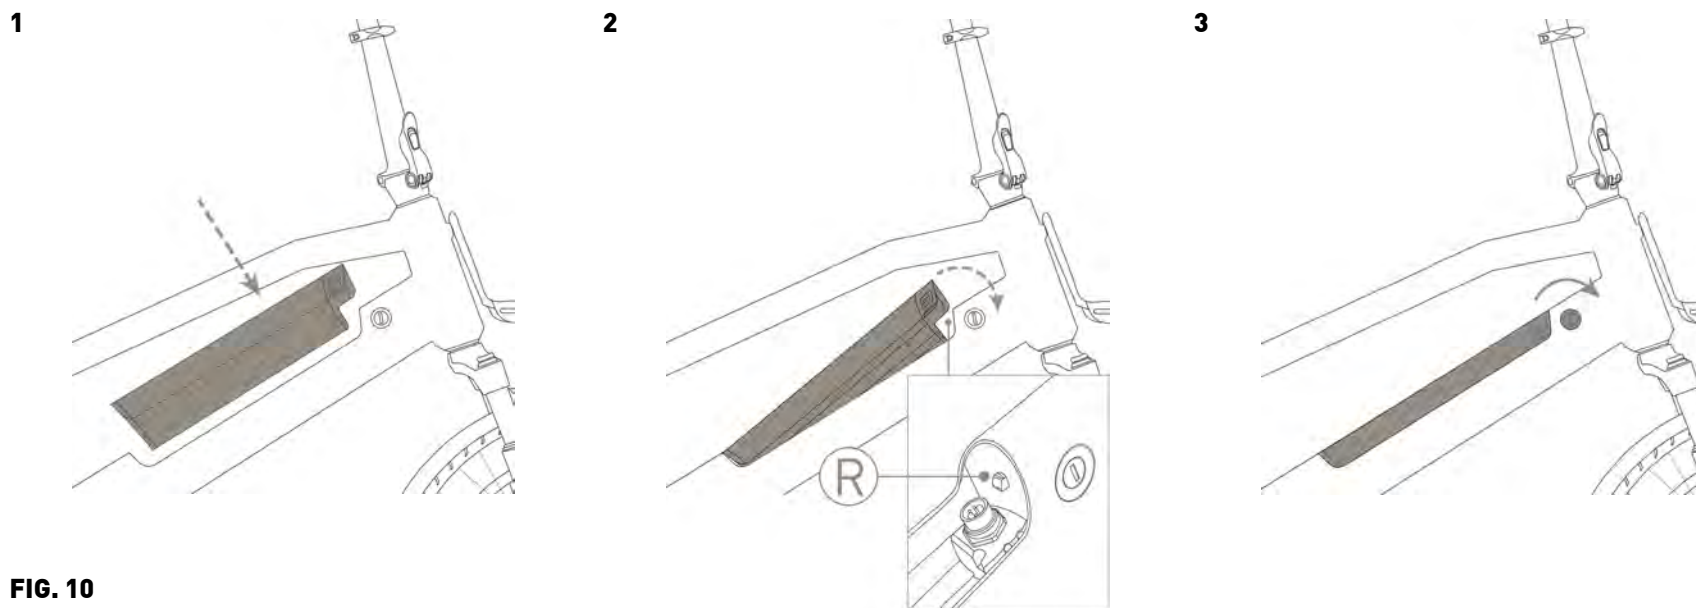

FIG. 10
2. Align the battery above the oblique pipe of the frame by matching the electrical connector (Ref. R – Figure 10)